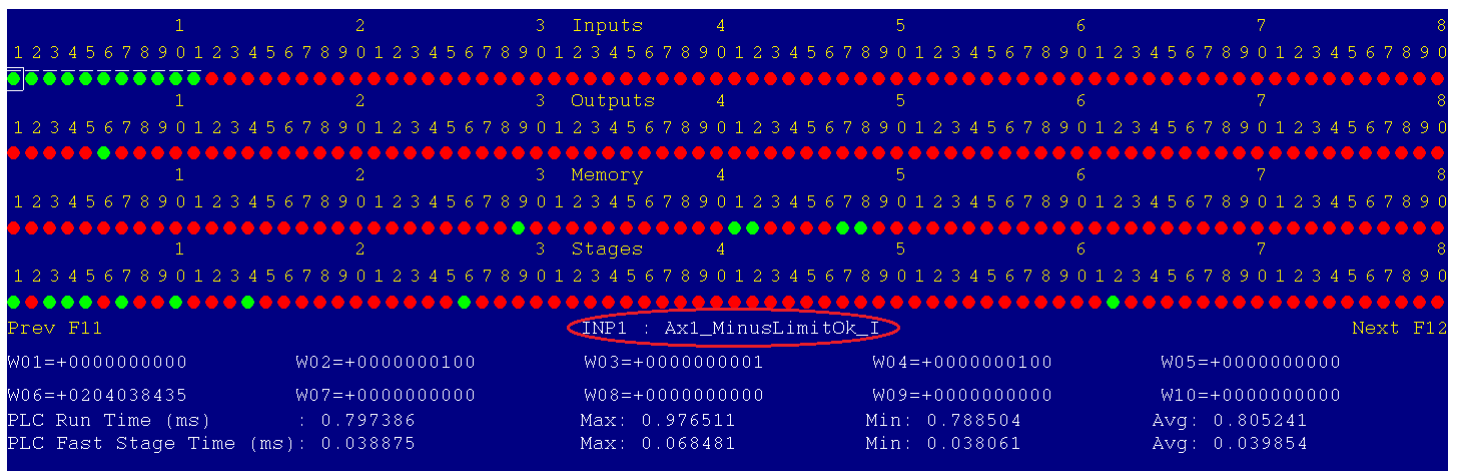

Figure 4.1.7
3. **Disable PLC faults for Limit Switches, Lube, Spindle, E-Stop and Axis Faults.** At the main screen press **alt + i** to bring up the real-time I/O display as shown in Figure 4.1.7. Using the arrow keys, move the selection box to the top left of the inputs. The screen should read “INP1 : Ax1_MinusLimitOk_I”. Press the **ctrl**, **alt**, and **i** keys simultaneously to invert this input.